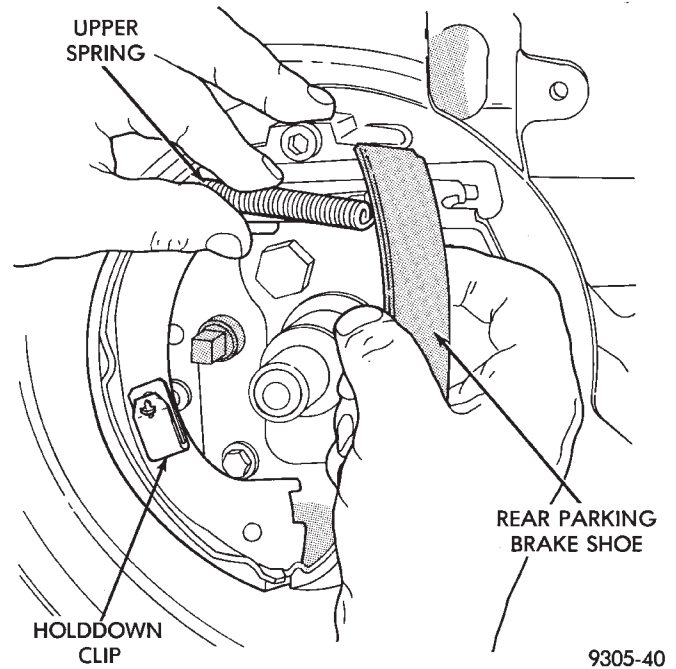

Fig. 6 Installing Upper Spring
- (2) Install rear park brake shoe and upper parking brake, shoe to shoe return spring (Fig. 6).
- (3) Pull rear parking brake shoe over anchor block until properly located on adapter.